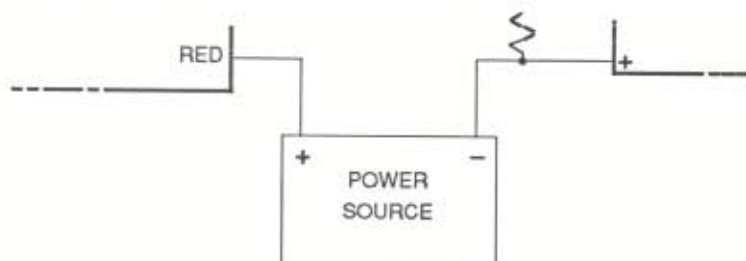

Figure 7. CLC Recalibration Hookup
Use the equipment listed in the table, and with the unit disassembled, connect the CLC as shown in the calibration hookup illustration, figure 7.
Special Consideration — Calibrating in Sink Mode. Though not recommended, the CLC may be calibrated in Sink Mode if desired. The break out in figure 7 illustrates the incorporation of the power source in the setup for calibrating the unit in Sink Mode.
18. Verify potentiometer settings by switching voltmeter to measure mA and removing precision resistor from setup in figure 7. With setup modified in this way, and with CLC in Source Mode, meter will read mA output at each level when appropriate labeled membrane push button is pressed.